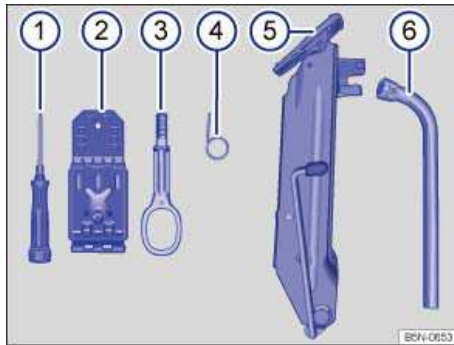
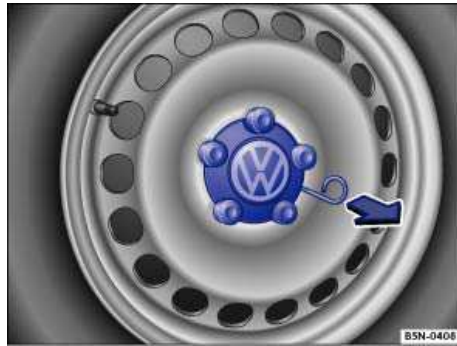

Fig. 190 Contents of the vehicle tool kit.
Fig. 192 Pulling off hubcap.
**Contents of the vehicle tool kit** ⇒ fig. 190
- (1) Screwdriver with a hexagonal socket in the handle for removing or inserting previously loosened wheel bolts. The screwdriver blade is reversible. The screwdriver may be stored under the lug wrench.
- (2) Folding chocks ⇒ *Folding chocks*.
- (3) Screw-in towing eye.
- (4) Hubcap puller clips for removing hubcaps, full wheel covers or wheel bolt caps.
- (5) Jack. Before putting the jack back, be sure to completely crank the jack down to its original position. Then the crank must be clamped against the side of the jack.
- (6) Lug wrench.
The folding chock is in the vehicle tool kit ⇒ fig. 190.
- To remove take the wire clip out of vehicle tool kit ⇒ fig. 190 (4) and hook it into the edge of the hubcap ⇒ fig. 192.